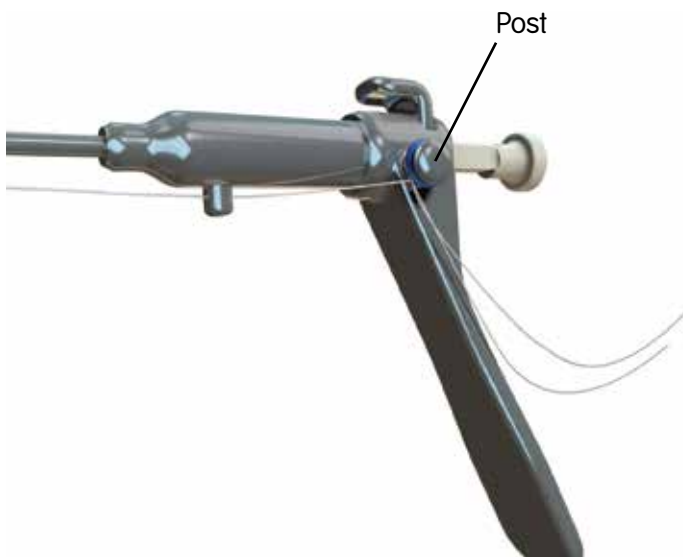

Figure 9
4. Wind the suture around one of the suture passer posts. Ensure that the suture is taut (Figure 9).